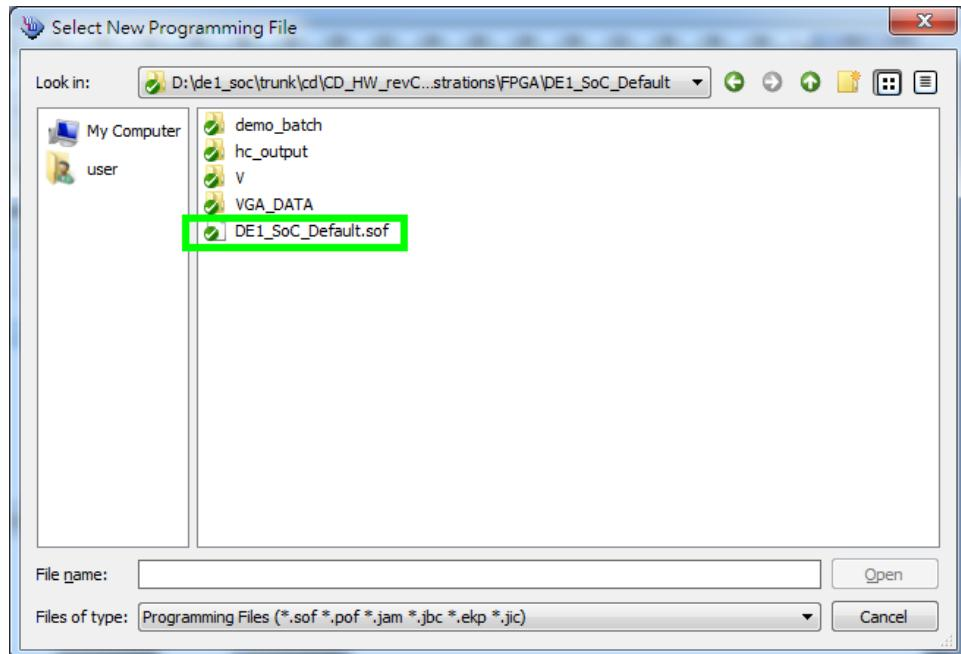

Figure 3-11 Select the .sof file to be programmed into the FPGA device
6. Select the .sof file to be programmed, as shown in **Figure 3-11**.